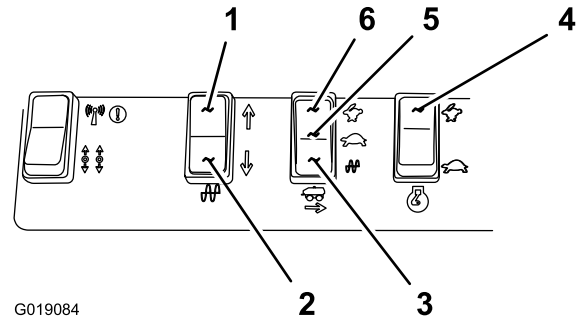

Figure 43
1. Select the engine-speed switch to the fast, engine-speed position (Figure 43).
- Start the vibration function in the forward direction by pressing the vibration direction switch forward (Figure 43).
- Start the vibration function in the reverse direction by pressing the vibration direction switch backward (Figure 43)